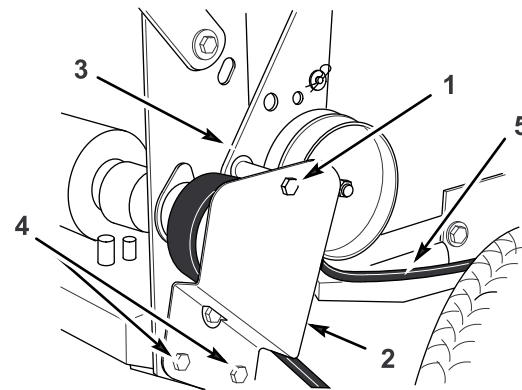

Figure 42
2. Remove the top bolt securing idler support and idler bracket to rear frame (Figure 42).
3. Loosen bottom two mounting screws enough to allow belt to pass between drive pulley and idler support (Figure 42).
6. Install the top bolt securing the idler support and idler bracket to the rear frame (Figure 42).
7. Tighten the bottom two mounting screws enough to allow the belt to pass between the drive pulley and idler support (Figure 42).